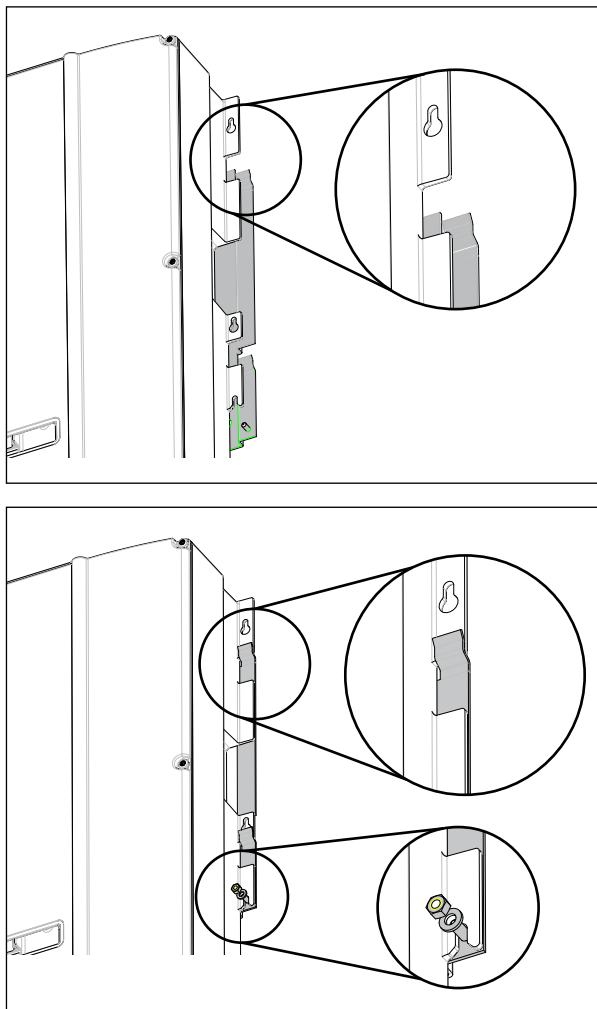

Fig. 7.5: Attaching the solar power inverter to the mounting plate
1. Attach the solar power inverter to the mounting plate, see Fig. 7.5, p. 28.